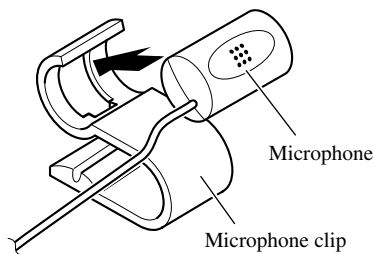

Fig. 16
1. Install the microphone on the microphone clip. (Fig. 16)